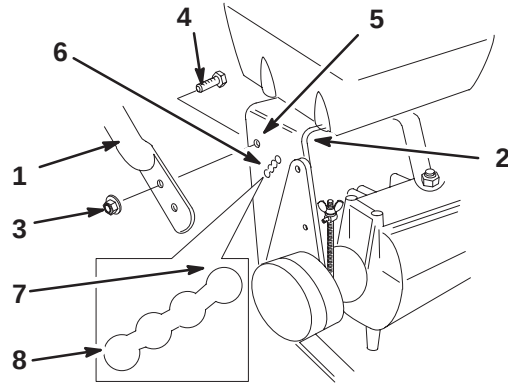

Figure 23
2. Loosen the upper flange bolts (3/8 x 1 inch) and flange nut securing handle to rear frame (Fig. 23).
3. Loosen the upper flange bolts (3/8 x 1 inch) and flange nut securing handle to rear frame (Fig. 23).
4. Remove the lower flange bolts (3/8 x 1 inch) and flange nuts securing handle to rear frame (Fig. 23).